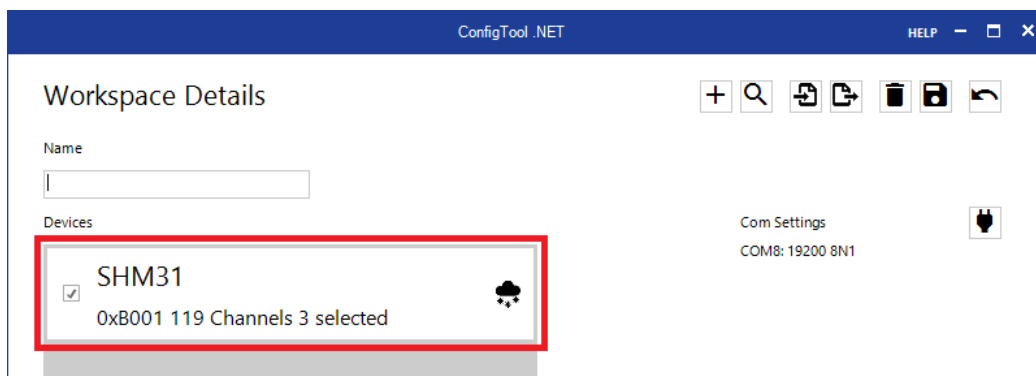

Figure 32: Select a device
3. Select SHM 31 from the list of devices (Figure 32)